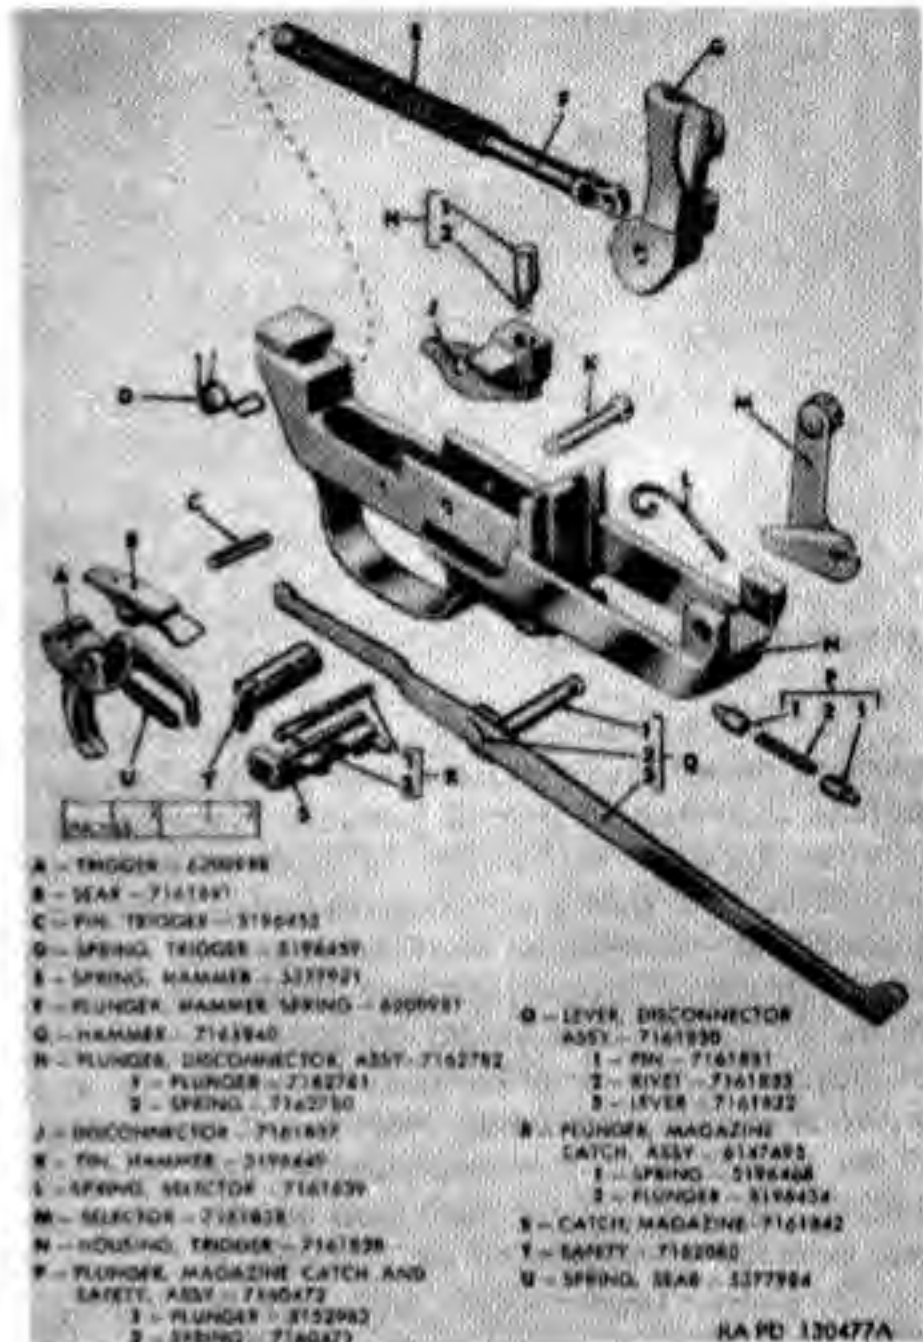

Figure 56. Trigger housing group — carbines M2 and M3.
b. Trigger Housing (Fig. 56). See page 62 for inspection of the trigger housing. Also inspect the selector spring retention slot in left magazine post for foreign matter and positive spring seating so that spring will not turn when assembled.
c. Hammer (Fig. 56). See page 63 for inspection of the hammer. Also inspect milled cut on lower right sight of hammer, which allows clearance for disconnecter, for burrs and wear (Fig. 49).
e. Trigger (Fig. 56). See page 64 for inspection of the trigger.
f. Trigger Spring (Fig. 56). See page 64 for inspection of the trigger spring.
g. Sear (Fig. 56). See page 64 for inspection of the sear. Also inspect top front portion (camming surface for disconnecter) for burrs and wear.
h. Sear Spring (Fig. 56). Check sear spring for positive seating in trigger and gear. Check for functioning, rust and set. Visually inspect during repair. Replace during rebuild.
i. Safety (Fig. 56). See page 65 for inspection of the safety.
j. Magazine Catch (Fig. 56). See page 56 for inspection of the magazine catch.
k. Disconnecter (Fig. 56). See that bearing slot in front end of disconnecter is free from foreign matter and burrs and is lightly lubricated. See that disconnecter spring is not weak, rusted, or broken, that spring well is free of foreign
l. Disconnecter Lever Assembly (Fig. 56). Examine the rivet of the disconnecter lever assembly which pivots the lever in the flat crank shaped end of the pin, to determine that the rivet is secure, that the hole in the crank of the pin is not enlarged, that this pivot is free from burrs, and is not worn. See that lever is not distorted or twisted on rivet, that it is free to rotate on the rivet and that ends are free from burrs and wear. Offset in rear section of lever is for alignment with disconnecter and should not be straightened. Be sure toe (front end) of lever bears squarely on cam on operating slide and is (slide retracted) under raised boss when lever is fully seated in the housing. See that holes in trigger housing for pin of disconnecter lever assembly are not enlarged.
m. Selector and Spring (Fig. 56). See that disconnecter pin slot in selector is not worn so it will cause lost motion or impair security. See that spring recess in rear end is free from foreign matter and will retain spring securely. See that selector spring is bent in only one plane (not twisted) and both ends seat securely in their retention recesses. If spring is loose when assembled, straighten slightly.